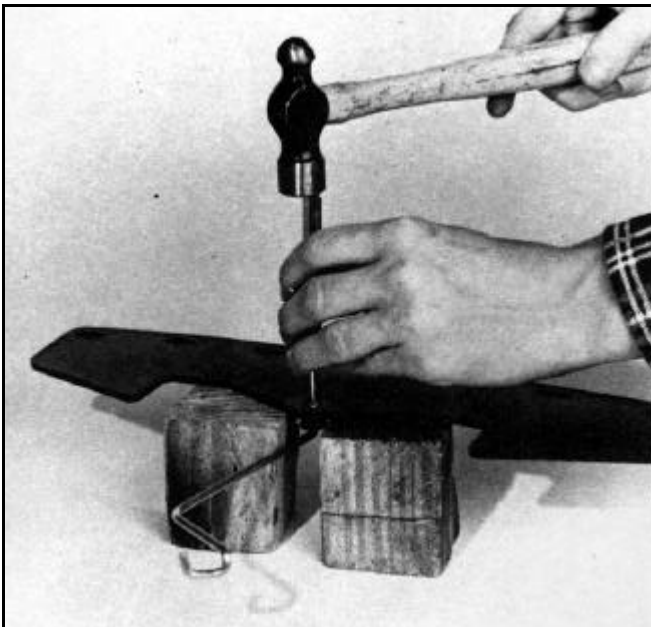

Figure 179 0217-086
- To remove the vane linkage from the vane mount, support the vane mount and linkage with a vise or two blocks of wood (Figure 179). Using a punch, lightly drive the vane link from the vane mount. Replace the vane mount or vane link if bent or misformed.
Note: On some models (Figure 179), the vane linkage is retained to the vane mount with a screw and nut.